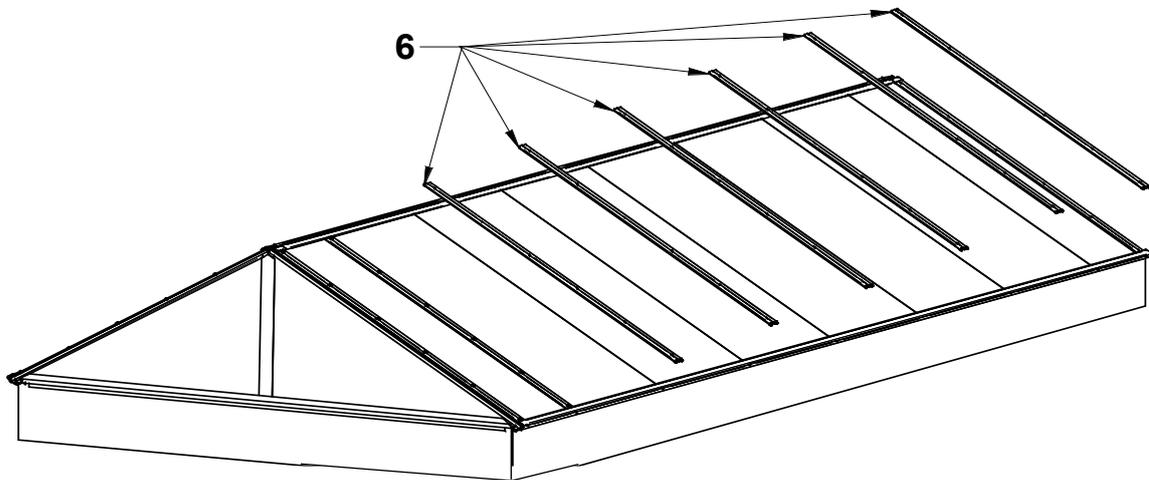

Figure 75 Assembly of polycarbonate panels and pressing profiles (step 3)
17. Now proceed according to (Figure 52 Fitting the end panel cover strip on 80 profile system). A cross-section of a correctly inserted gasket is shown in (Figure 75 Assembly of polycarbonate panels and pressing profiles (step 3)).